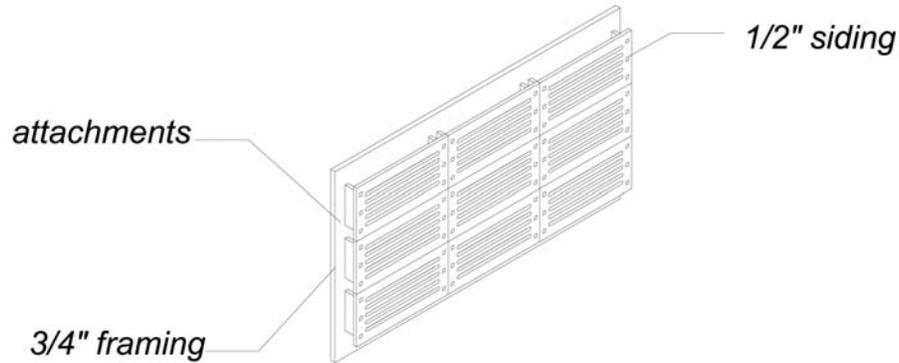

Figure 3 3D assembly of siding with backer board.
1. The pattern as a 2' x 4' overall shape subdivided into 9 parts (See Figure 3)